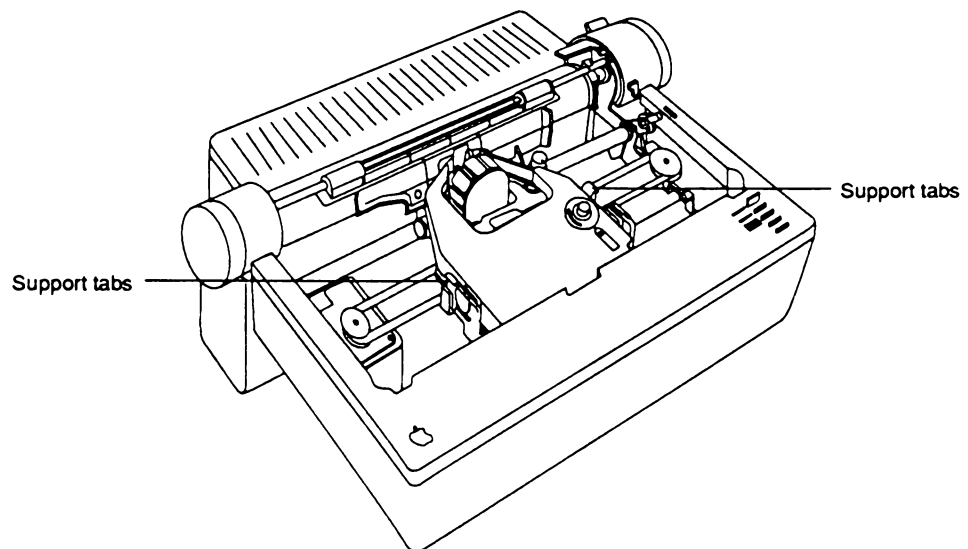

Figure 6. Properly seated ribbon
4. When the ribbon is in position, gently press the cartridge between the two **cartridge support tabs**, so that the ribbon snaps into place (see Figure 6). Make sure the ribbon is still positioned between the ribbon and paper guides.